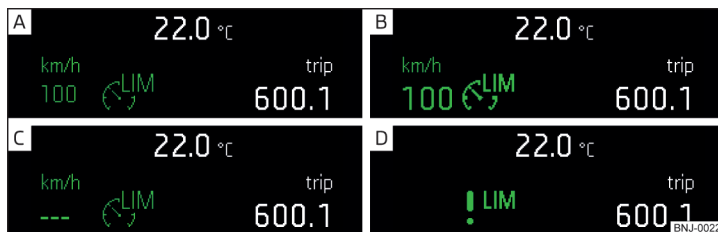

Fig. 278 Instrument cluster display: Examples of Speed Limiter status displays
**Speed limiter status displays** » Fig. 278